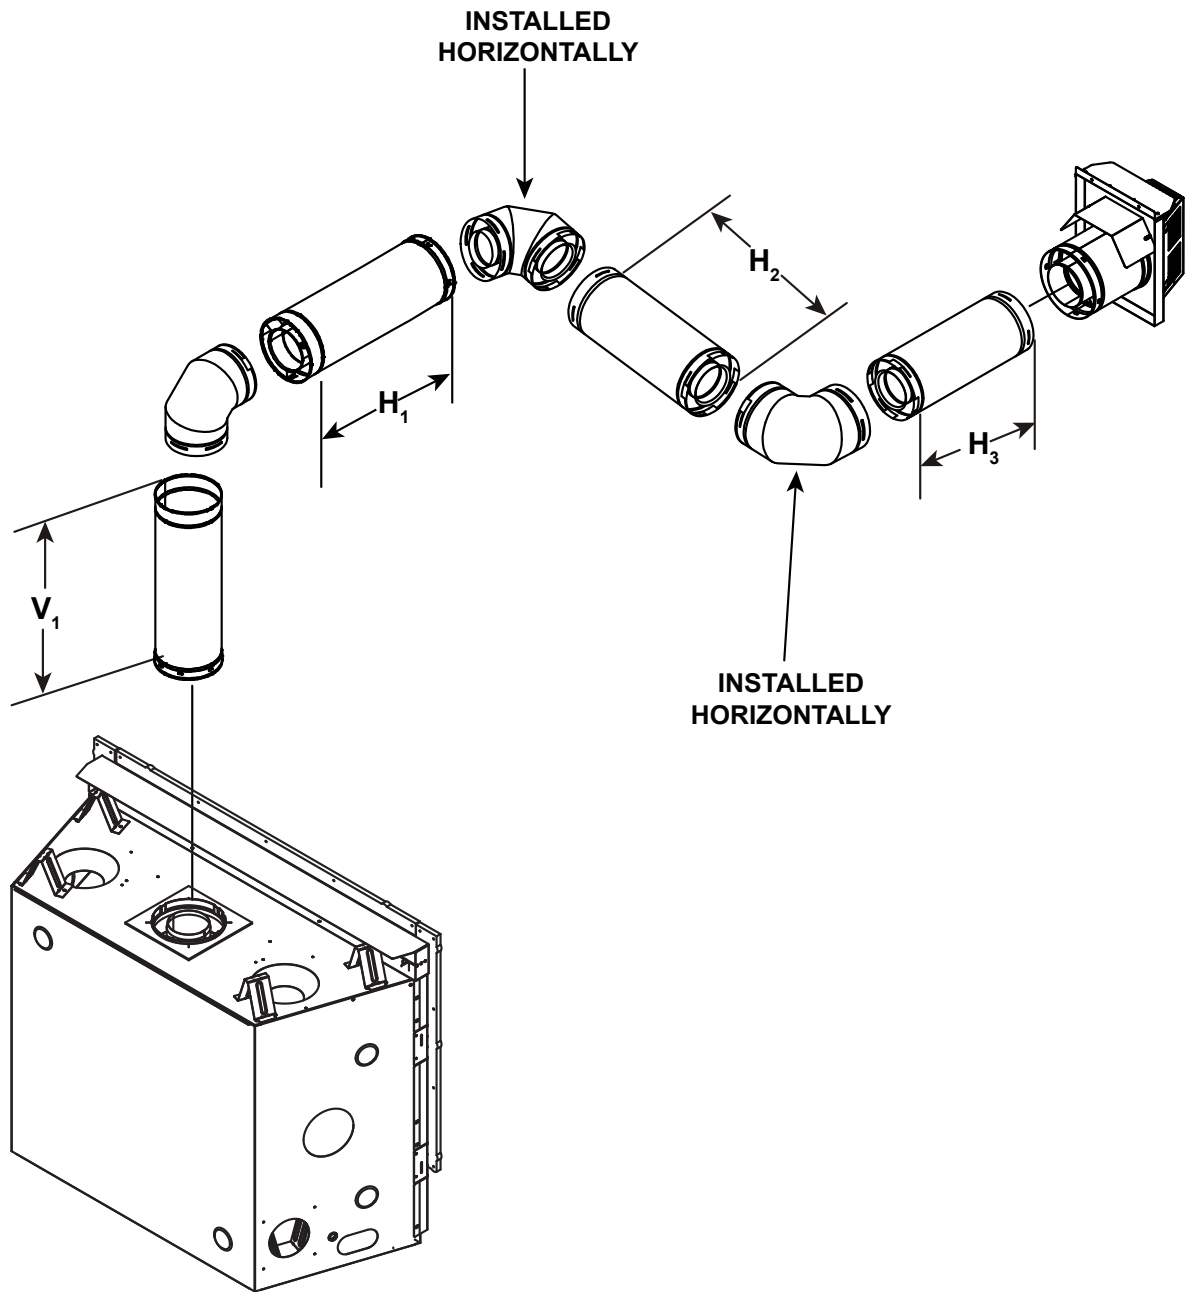

Figure 4.15
- A maximum of four 90° elbows (or eight 45° elbows) may be used in any vent configuration. Some elbows may be installed horizontally. See Figure 4.15.